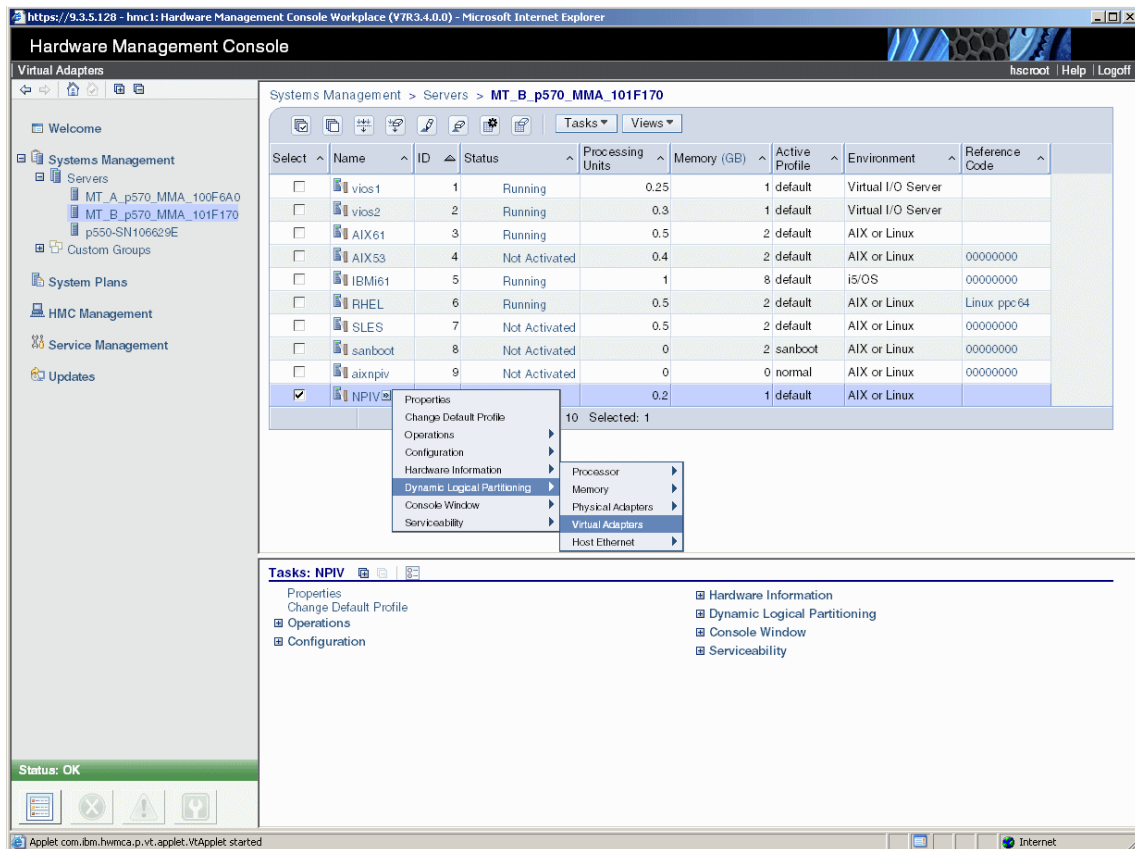

Figure 2-46 Add a virtual adapter to NPIV partition
6. Add a virtual Fibre Channel client adapter to the virtual I/O client partition. In the HMC select your managed server and the partition NPIV. Click **Tasks** → **Dynamic Logical Partitioning** → **Virtual Adapters** as shown in Figure 2-46.